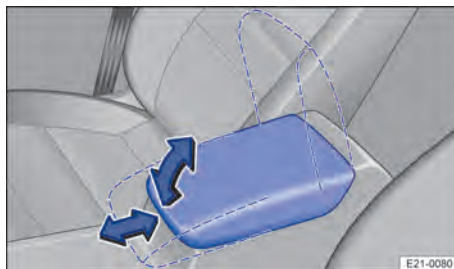

Fig. 73 Between the front seats: centre armrest.
1. *Lift*: pull the centre armrest gradually upwards in the direction of the arrow → Fig. 73.
3. *Adjust in longitudinal direction*: slide the centre armrest forwards or backwards → Fig. 73.